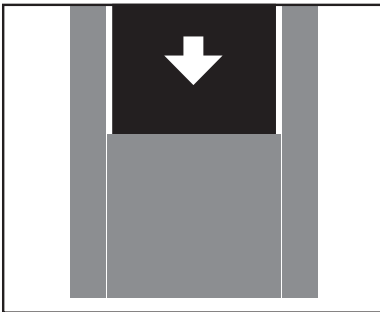

Fig. 24
3. Pass the flexible seal through slot in lifting body (Fig. 24).